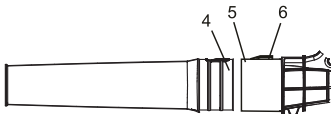

Fig. 2
3. Slide the large end of the rear nozzle section (4) over the Blower/Sweeper intake (5) (Fig. 2).
4. Push the rear nozzle section firmly onto the Blower/Sweeper intake until the nozzle release button (6) “clicks” into place locking the nozzle assembly onto the Blower/Sweeper intake.